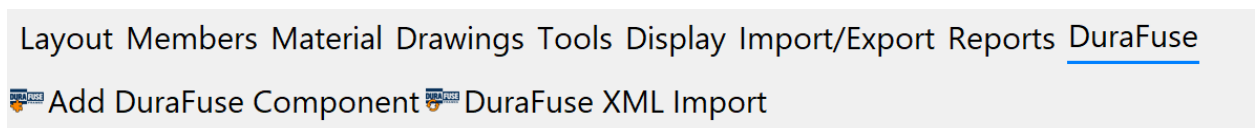

Figure 11. DuraFuse Frames Custom Toolbar
- 13) A new DuraFuse toolbar will show up in the SDS2 ribbon with quick buttons for the main component and XML import tool (Figure 11).